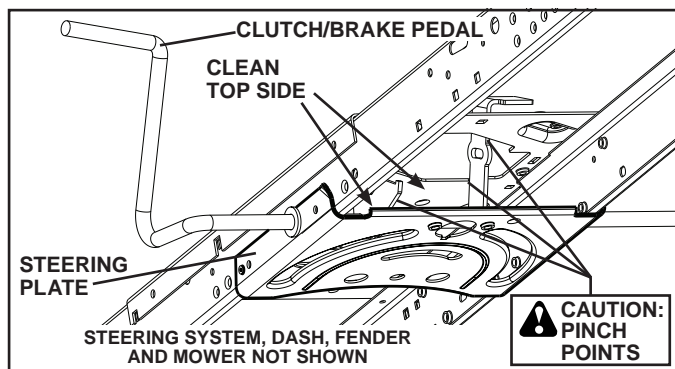

Fig. 32
**CAUTION: Avoid all pinch points and movable parts (See Fig. 32)**